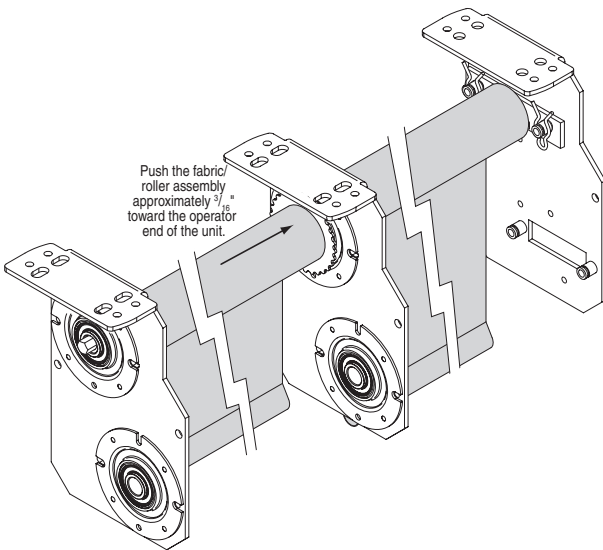

Figure 15
- ② Push the fabric/roller assembly you are adjusting toward the operator end of the unit. The fabric/roller assembly you are pushing will move approximately  $\frac{3}{16}$ " toward the operator end (see Figs. 15 and 18).